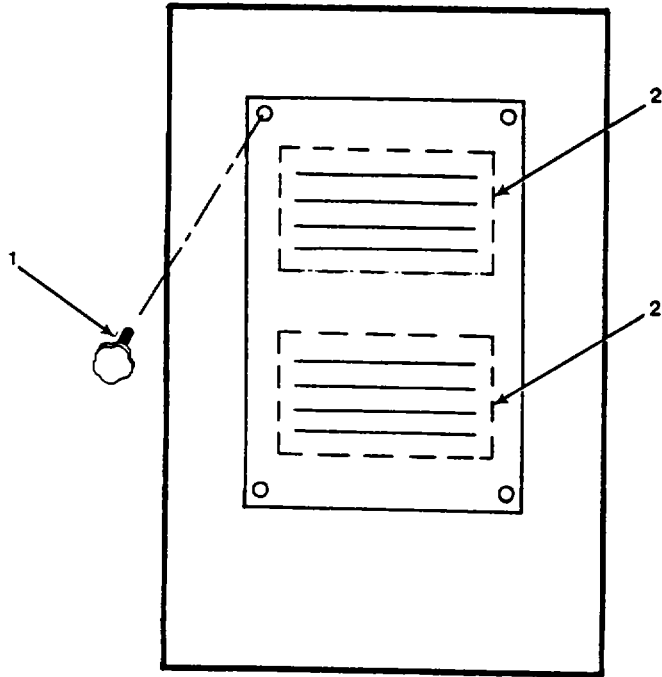

Figure 4-22. Door Fresh Air Filter
- a. Inspect. (See Figure 4-22.)
- (1) Check fresh air door for proper installation and security.
- (2) Check filters (2) for dirt, cuts, tears.
- (3) Check filters (2) for correct installation.
- b. Replace. (See Figure 4-22.)
- (1) Loosen handknobs (1) and remove filters (2).
- (2) Clean filters (2) and reinsert.
- (3) Tighten handknobs (1).
b. Replace. - Continued (See Figure 4-22.)